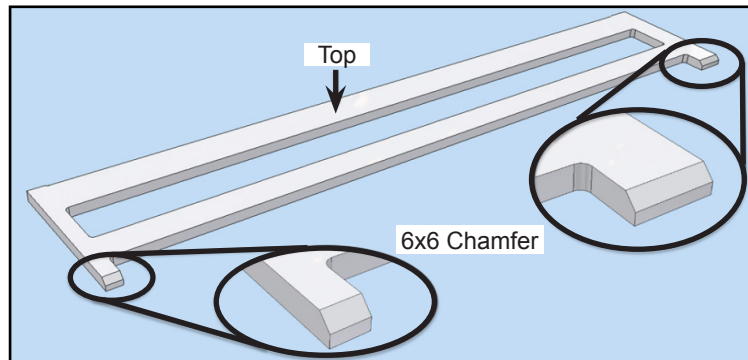

Figure 11 - Preparation of Brace
2.32. Add 6mm x 45° chamfers on the brace N85124 legs as shown (see Figure 11).